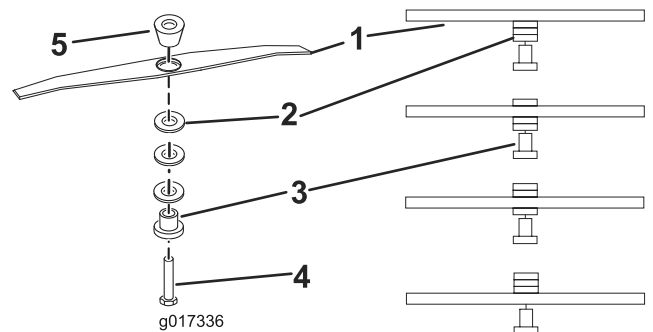

Figure 12
6. Reposition the spacers to the desired height, reinstall the blade bolt and spacers (Figure 12), and tighten the bolt to 25 N-m (18 ft-lbs).